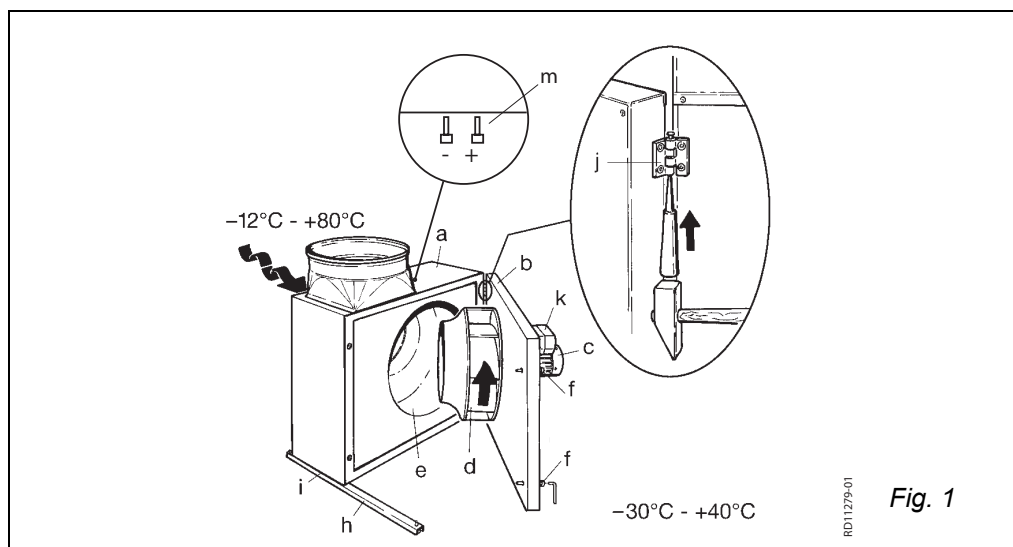
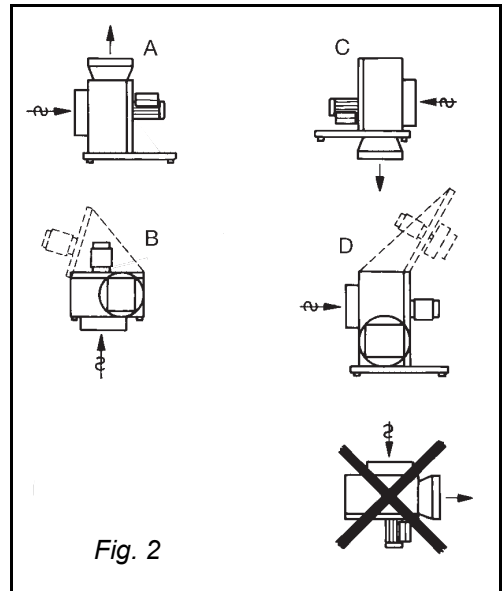

Fig. 1
Fig. 2
There are various ways of fitting the ventilator indoors (Fig. 2). With methods B and D the service door must be kept in the open position during service. A safety fitting for this purpose can be supplied (including an assembly kit).
- **BESB 400 and 500:** When using fitting method B (Fig. 2/4) for BESB 400 and 500, holes (Ø16 - Ø20) are bored in the cabinet for the fitting of the mounting bars.
All one-phase ventilators are voltage regulated. The motor is fitted with a thermal cut-out. The thermal-cut out is factory installed and wired in series to the motor's power circuit (electrical diagram in the terminal box fig. 1). Use the circuit diagram (Fig. 2) if a manual reset is required after a thermal cut-out, where the thermal cut-out is used as a contact in the control circuit. The motor has overload protection.